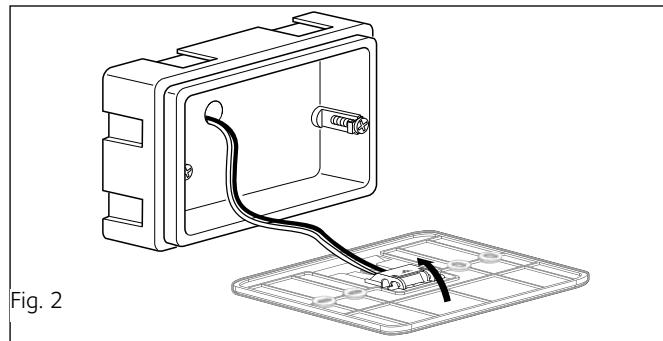

Fig. 2
- connect the pair of wires to the connector (as described on the following page) and close the protective tab again (fig. 2);